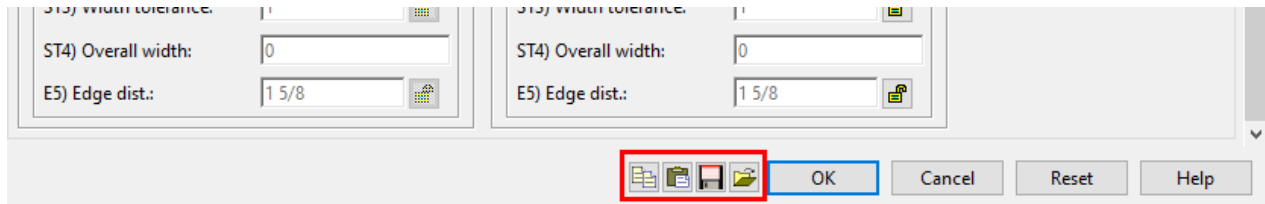

Figure 15. Save or Open Form
2. Select the save button at the bottom of the *DuraFuse Component Dialog*, see Figure 15.